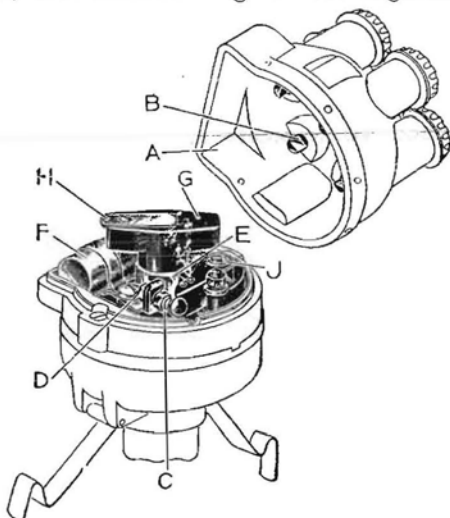

Fig. 5. DISTRIBUTOR AND CONTACT BREAKER TYPE DJ6A
To test the contact breaker gap on DJ types of distributors, slowly turn the engine over by hand until the contacts are seen to be fully opened. Now insert the gauge (.012-.015 ins.) in the gap; if it is correct the gauge should be a sliding fit. It is not advisable to alter the setting unless the gap varies considerably from the gauge. If adjustment is necessary, proceed as follows:—When the contacts are fully opened, slacken the locking nut "D" (Fig. 5) on the stationary contact screw, and rotate it by its hexagon head until the gap is set to the thickness of the gauge. After making the adjustment, care must be taken to tighten the locking nut.
- (2) **Cam.** About every 3,000 miles give the cam the slightest smear of vaseline.
- (3) **Distributors with Automatic Timing Control.** About every 3,000 miles withdraw the moulded rotating arm "G" (Fig. 5 or 6) from the top of the spindle by lifting it off, and add a few drops of thin machine oil. Do not remove the screw exposed to view, as there is a clearance between the screw and the inner face of the spindle through which the oil passes to lubricate the automatic timing control. Take care to refit the arm correctly and to push it on to the shaft as far as possible.
- (4) **Contact Breaker Pivot.** Every 5,000 miles, place a single drop of thin machine oil on the pivot "J" (Figs. 5 and 6) on which the contact breaker lever works.
- (5) **Distributor Gears.** When distributors are mounted on the dynamo and are driven from the dynamo shaft, the gears are packed with grease during assembly and should not need attention for a considerable time. Periodically, say, when the engine is being decarbonised, move aside the flap on the gear housing and if the gears are dry, add a little high melting point grease, such as No. 62 "Gredag" (E. G. Acheson Ltd.) a grease originally put in the gears at the Works. Care must be taken not to add excess of grease, otherwise it may work its way into the dynamo or distributor.
These distributors have one contact breaker lever. The distributor shaft carries a 2, 4 or 6 lobe cam according to the number of cylinders of the engine, and is driven at half engine speed so that the contacts open once, twice or three times each revolution of the engine. Occasionally remove the distributor moulding by pushing aside its two securing springs. See that the electrodes are clean and free from deposit. If necessary, wipe out the distributor with a dry duster and clean the electrodes with a cloth moistened with petrol. See that the carbon brush is clean and moves freely in its holder. Clean the outside of the moulding, particularly the spaces between the terminals. Next examine the contact breaker; it is important that the contacts "C" (Figs. 5 and 6) are kept free from any grease or oil. If they are burned or blackened, they may be cleaned with very fine carborundum stone or emery cloth and afterwards with a cloth moistened with petrol. Care must be taken that all particles of dirt and metal dust are wiped away. Misfiring may be caused if the contacts are not kept clean.